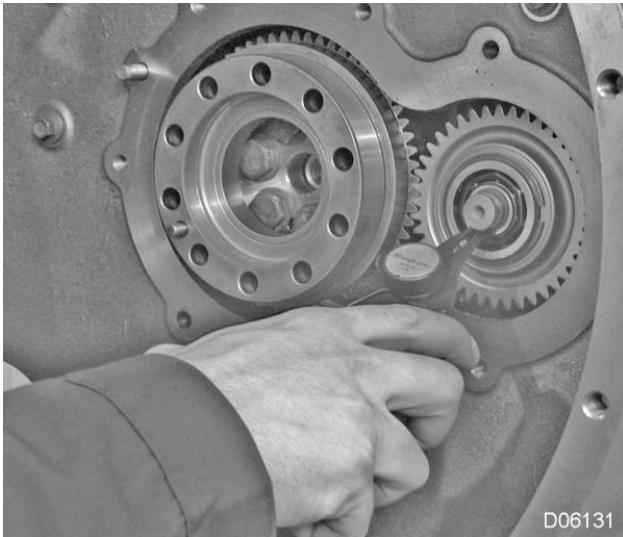

Figure 37 Install Retaining Ring
38. Install the power steering idler gear retaining ring on the idler shaft (Figure 37).